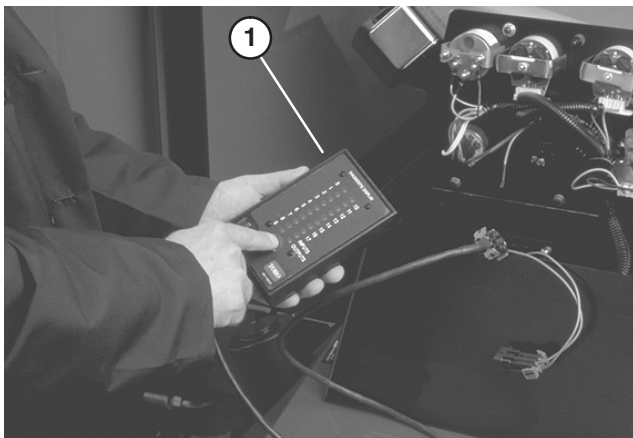

Figure 37
3. Connect the Diagnostic ACE display connector to the harness connector (Fig. 37). Make sure correct overlay decal is positioned on Diagnostic ACE display.